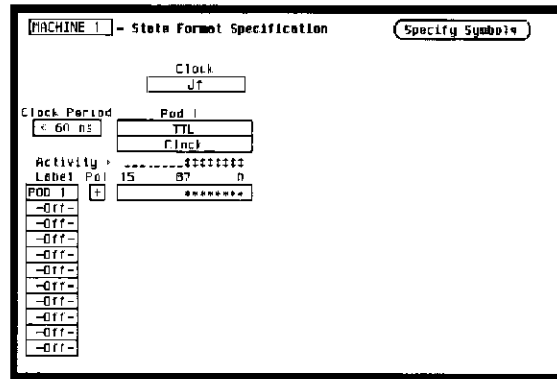

Figure 3-12. State Format Specification for Data Test 2
- In the State Format Specification assign Clock Period < 60 ns, and rising edge of J clock. Also, assign lower 8 channels of the pod under test to a label as in figure 3-12.
4. In the **State Format Specification** menu assign **Clock Period < 60 ns**, and falling edge of J clock. Also, assign the lower 8 channels of the pod under test to a label as in figure 3-12.